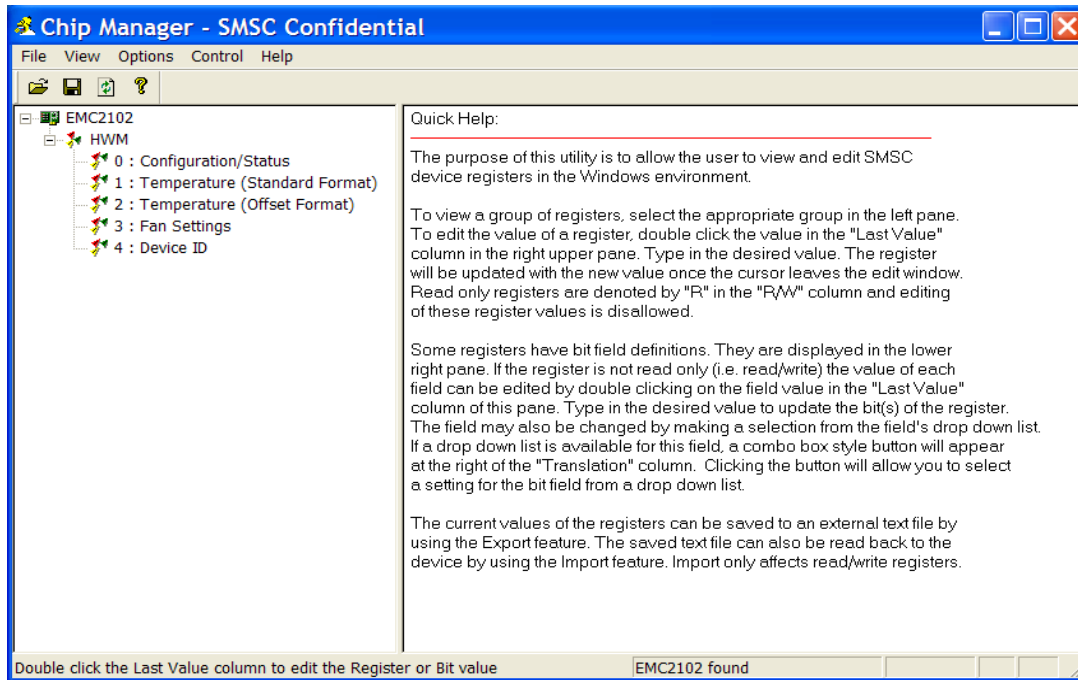
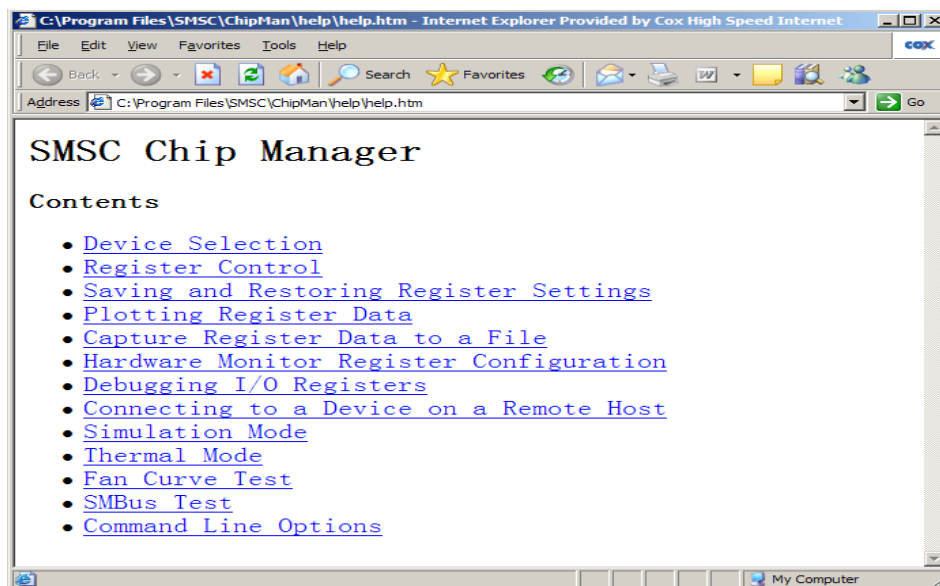

Figure 2.1 ChipMan Quick Help Startup Screen
Figure 2.2 .ChipMan Help Screen
3. Start the EVB Software by selecting Start -> Programs -> SMSC -> Chip Manager. The EVB will initialize and the ChipMan Quick Help screen will appear as in Figure 2.1. The USBACT (LED 6) on the evaluation board should be blinking when the control signals and data are transferred between the PC and EVB-EMV2102. For more help with ChipMan, select Help -> Contents for an html based help document as shown in Figure 2.2.
To display register names, in the ChipMan window (Figure 2.1) click on EMC2102 and then click on HMW to expand the left panel menu, and then select register groups.